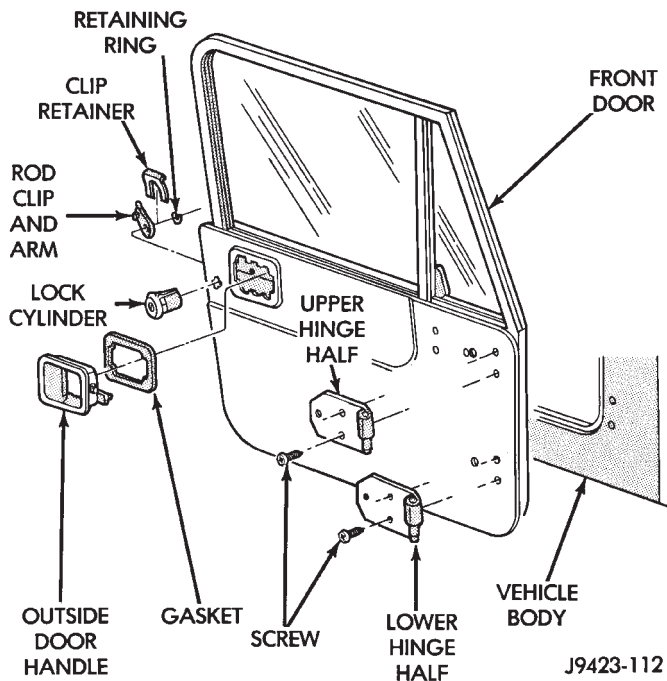

Fig. 14 Key Lock Cylinder and Door Handle Removal/Installation
(1) Install the lock cylinder in the door panel (Fig. 14).
- (12) Carefully remove the window glass from the channel and the door.
- (13) Remove the key lock cylinder from the door (Fig. 14).